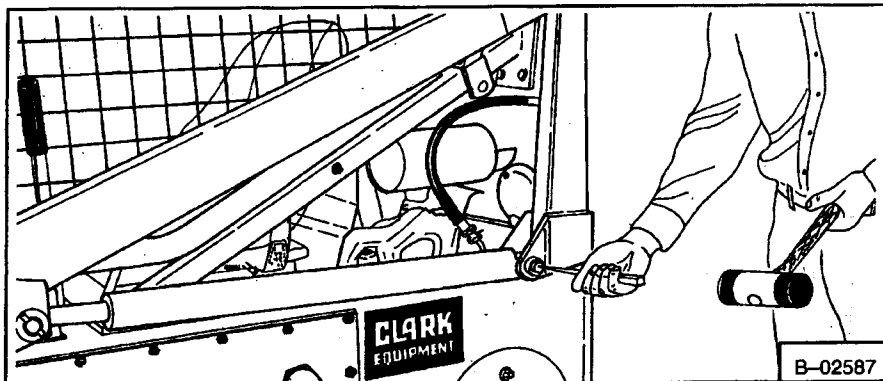

Fig. 4-42 Remove Lift Cylinder
1. Remove hydraulic cylinder from loader (Fig. 4-42).